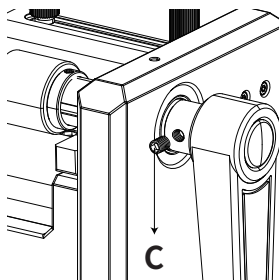

Fig.3
- 3.As shown in Fig. 3, tighten the screw to secure the handle firmly.